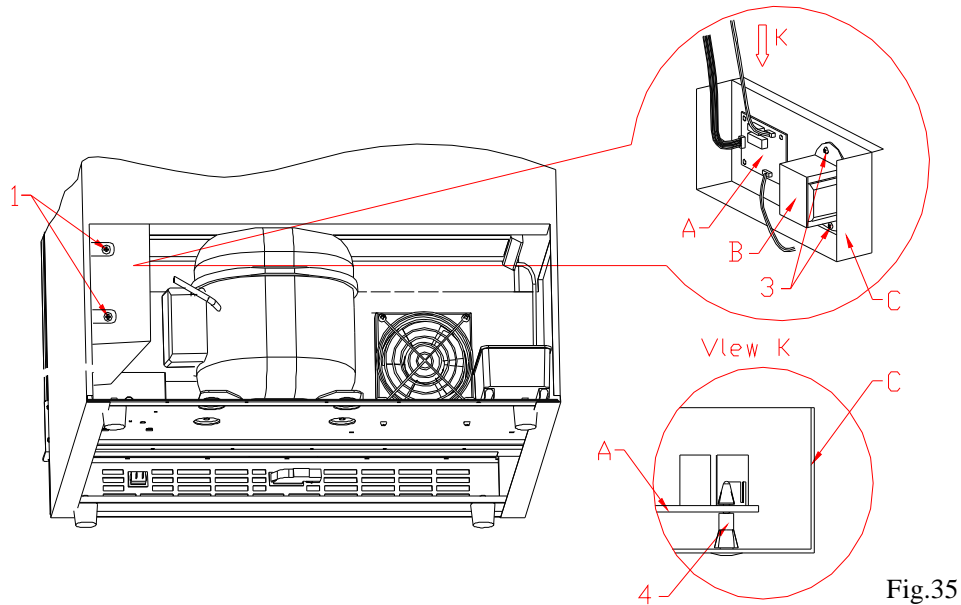

Fig.35
model 2: PCB board divide into 2 blocks, the main PCB board is in the electrical box(Fig.15),the other power PCB board is in the left of the compressor's box with the transformer. (Fig.35)
a.Remove the two screw(1) that fixing the electrical box for power PCB (Fig.35).
b.Remove the the electrical box(C) for power PCB (Fig.35).
c. Unplug all the connector, press the 4 studs (4) one by one. Updraw the power PCB board(A), and draw off the PCB board, , replace it with the same model's PCB board. (Fig.35) (Vlew K)
d.Remove two fixing screw(3) of the transformer, take off the tranformer (B) for replacement. (Fig.35)